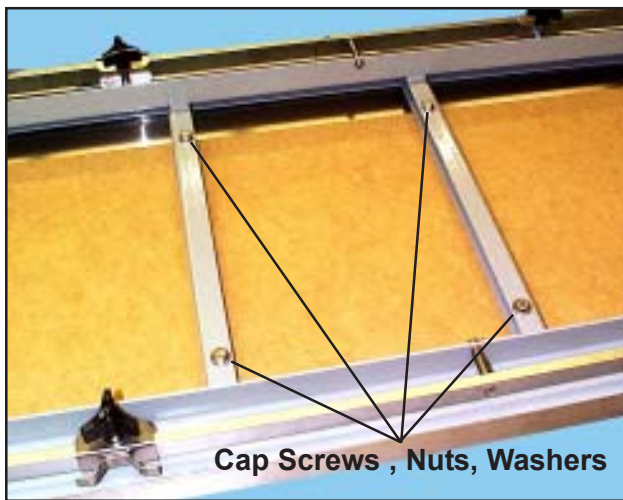

Figure 1. Hardware in Table Top Frame
3. With two 1/2 in. wrenches, remove the four cap screws and nuts, and eight flat washers from the table top frame (Figure 1). **Note:** Save these screws, nuts, and washers - you will use them in *Steps 6* and *7* to mount the table top to the base.